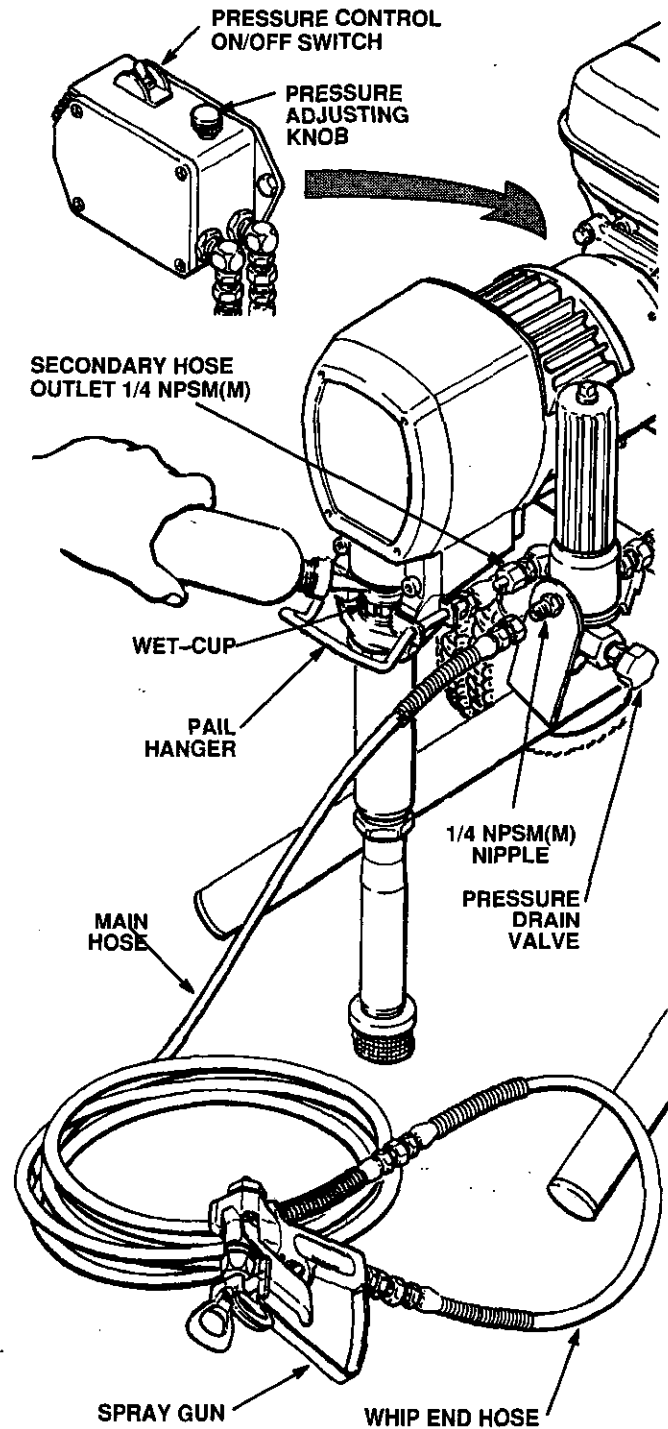

Fig 10-1
1. **Connect Hose and Gun.** Refer to Fig 10-1.
2. **Two Gun Hookup.** Refer to Fig 10-1. Remove the cap from the secondary hose outlet and attach an accessory hose and gun to the 1/4 npsm(m) nipple.
3. Never install any shutoff device between the filter and the main hose. See Fig. 10-1.
3. **Fill Packing Nut/Wet-Cup.** See Fig 10-1. Fill the packing nut/wet-cup 1/3 full with Graco Throat Seal Liquid (TSL), supplied.